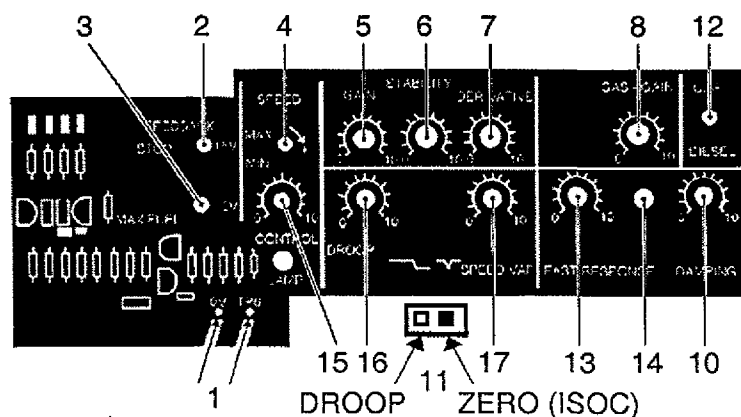

Fig. 5AA
- b) If the control box and actuator have different serial numbers, the feedback voltage has to be set as follows: **(numbers in brackets refer to Fig. 5AA)**. Disconnect the linkage from the governor output levers. Connect a dc Voltmeter (0 - 10V range) onto the test points 0V and TP6 (1).
Initial settings (numbers in brackets refer to Fig. 5AA).